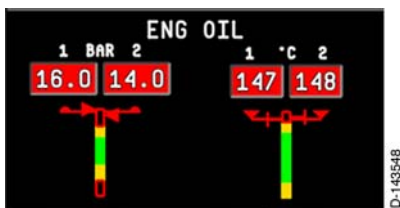

Figure 6-8
- **Engine Oil Displays** – The engine oil indicators, shown in Figure 6-8, have bar gauges with **red**, **amber**, and **green** zones that indicate oil pressure and temperature. The pointers on the left and right side of the bar point to the current pressure or temperature that is displayed in the digital readout box on the top of the bar. The color of the digital readout matches the pointer zone. The oil pressure limits are listed in Table 6-9, and oil temperature limits are listed in Table 6-10.